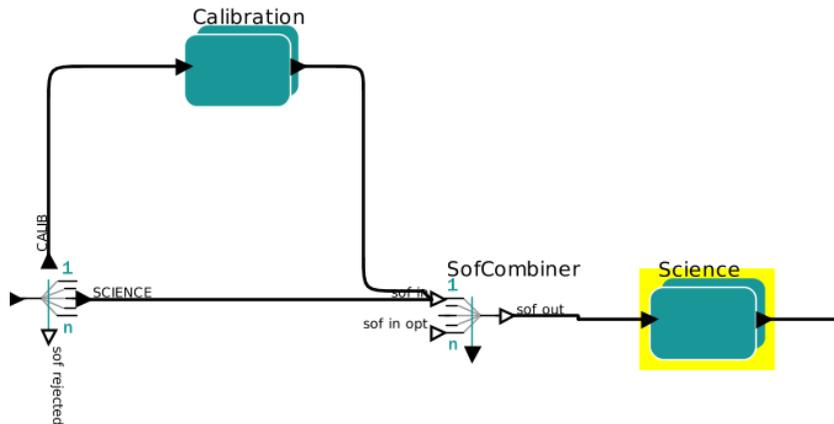

Figure 6: Connection of the recipe composite actors and the `FitsRouter` for a simple workflow with one calibration recipe and one science recipe.
Figure 5: Composite actor which contains a recipe executer surrounded by a SofSplitter and SofAccumulator. The top level canvas will show this composite actor with the name Calib, as shown in figure 6.
11. Drag a `SofCombiner` actor in front of the science composite actor and connect both the output of the calibration composite actor and the `SCIENCE` port of the `FitsRouter` to the input of the `SofCombiner`, and the output of the latest to the input of the science composite actor. The result is shown in figure 6.